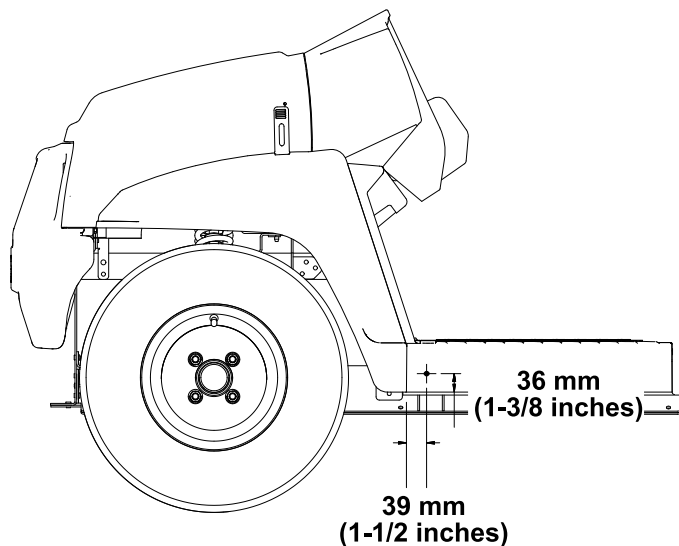

Figure 1
1. Using the dimensions shown in Figure 1, drill 1 hole (5/16 inch) into the outside of the floor plate on both sides of the machine.